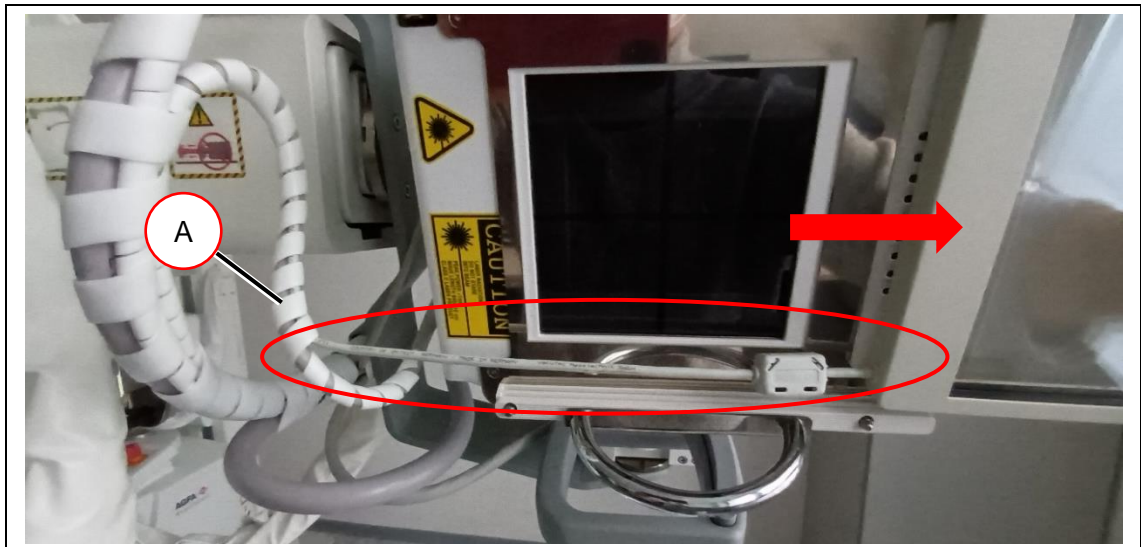

Figure 2: Too short cable at DAP meter
- (1) Check the lengths of the DAP cable (see Figure 2).
- (2) In case it is too short as shown in Figure 2: